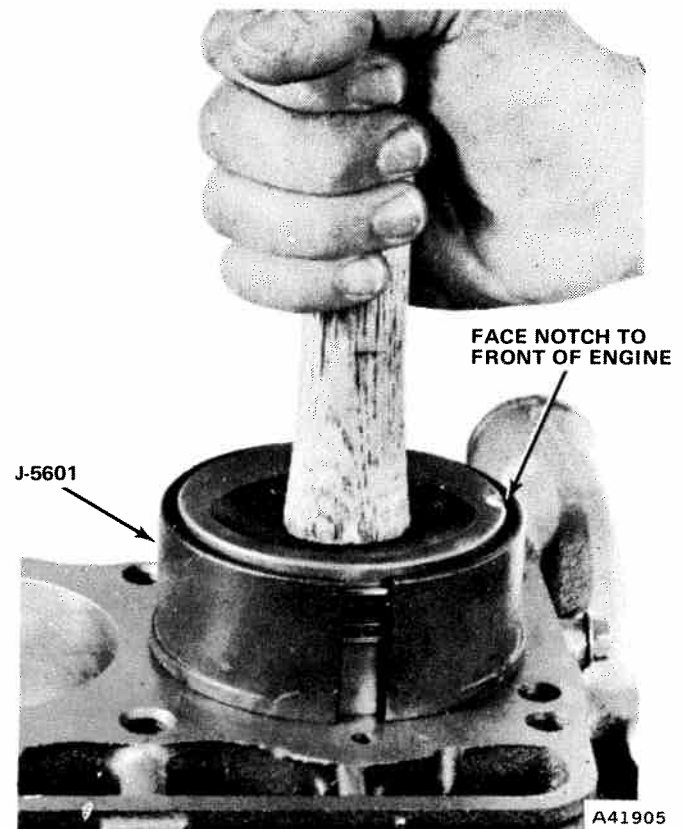

Fig. 1A-36 Piston-to-Bore Installation
- (1) Install upper main bearing inserts in cylinder block.
- (2) Install crankshaft.
- (3) Install main bearing caps and inserts. Tighten bolts to 80 foot-pounds torque.
- (4) After thoroughly cleaning cylinder bores, apply a light film of clean engine oil to bores with a clean lint-free cloth, or paper towel.
- (5) Position piston rings on piston as follows:
- (6) Lubricate piston and rings with clean engine oil.
- (7) Use Piston Ring Compressor Tool J-5601 to install connecting rod and piston assemblies through the top of the cylinder bores (fig. 1A-36).